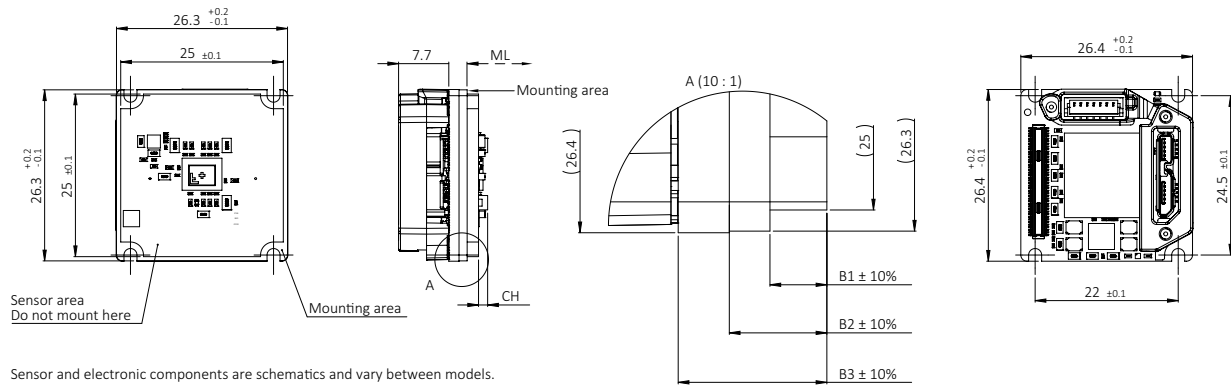

Figure 48: Bare Board dimensions
Dimensions that are common between different models are shown in Figure 48, model specific dimensions are listed in Table 73. **Mechanical length (ML)** defines the mechanical distance from the mounting area to the lens mount front flange, without optical filter. **Components height (CH)** relates to the electronic components with maximum height, in some cases the sensor.